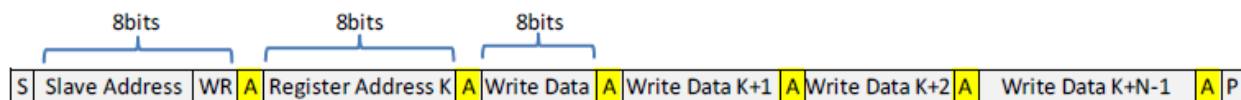

**Figure 4. Definition of Timing for Full-Speed Mode Devices on the I2C Bus**
## FAST MODE I2C SPECIFICATIONS (see Figure 4)
**FAST MODE I2C SPECIFICATIONS (see Figure 4) (continued)**